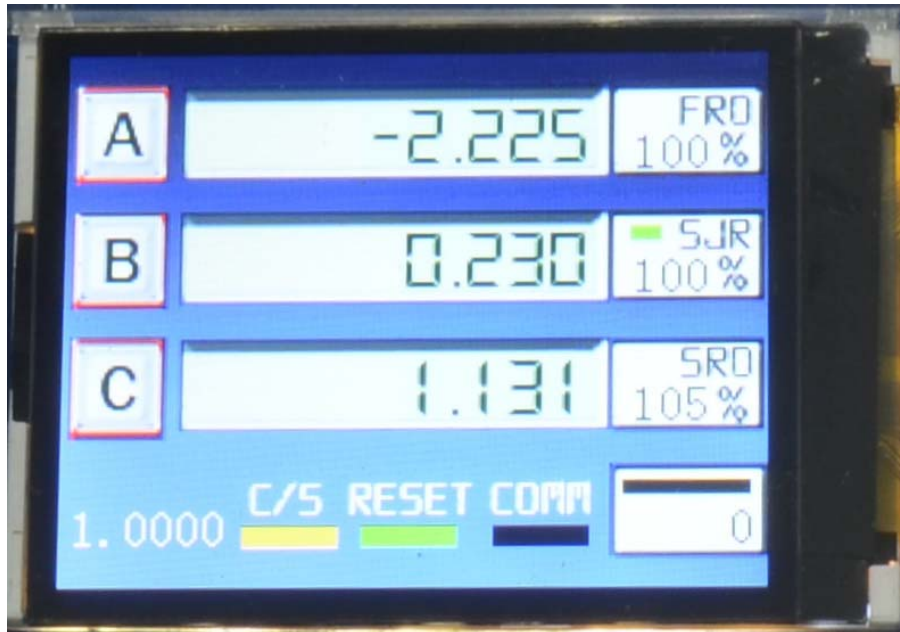

figure 6
- push the key "SJR/SRO/FRO" to put the green block beside SJR in the screen.see as figure 6